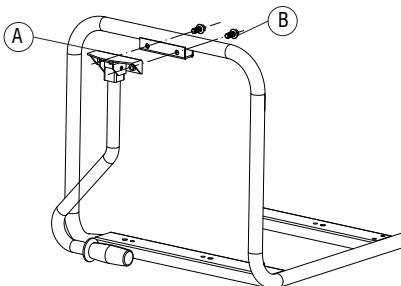

Figure 2-7. Handle Assembly
Install Handle assembly(A) as shown in Figure 2-7
• Install the handle assembly(A) to the frame using two M8-1.25 x 40 bolts (B)